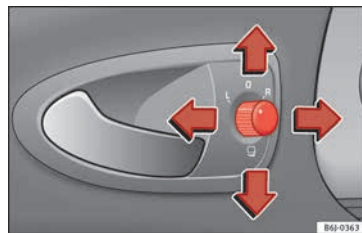

Fig. 139 Exterior mirror controls.
1. Turn knob » » » Fig. 139 to position **L (left exterior mirror)**.
- Turn the control » **Fig. 139** to position  to fold in the exterior mirrors. You should always fold in the exterior mirrors if you are driving through an automatic car wash. This will help prevent damage.